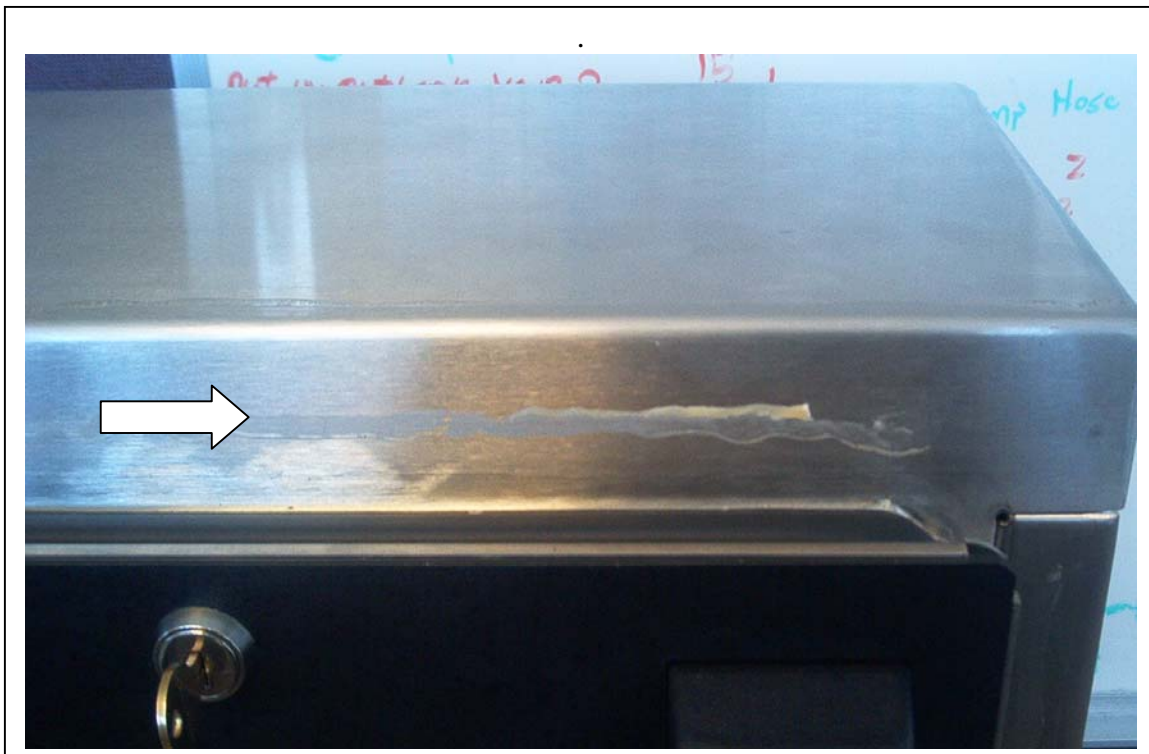

Figure 1. Clean Old Adhesive
- Clean the shroud area of remaining glue with the small flat scraper. **Figure 1.**